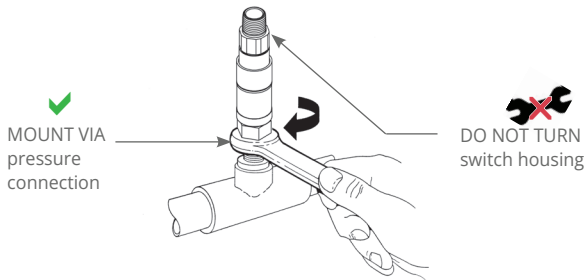

Figure 1
**FOR PRESSURE MODELS, MOUNT VIA PRESSURE CONNECTION. ALWAYS USE A WRENCH ON PRESSURE CONNECTION HEX (SEE FIGURE 1). DO NOT TIGHTEN BY TURNING THE ENCLOSURE AS THIS WILL DAMAGE THE SENSOR AND WEAKEN WELDED JOINTS.**